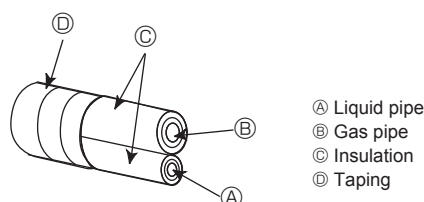
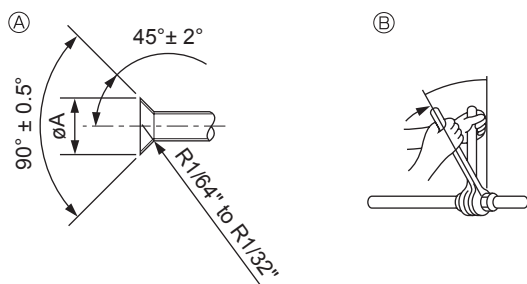

Fig. 4-4
Fig. 4-5
A (Fig. 4-5)
4.4. Connecting pipes (Fig. 4-4) (Fig. 4-5)
- [Fig. 4-5]
- ① Pipes must be connected starting from the indoor unit.